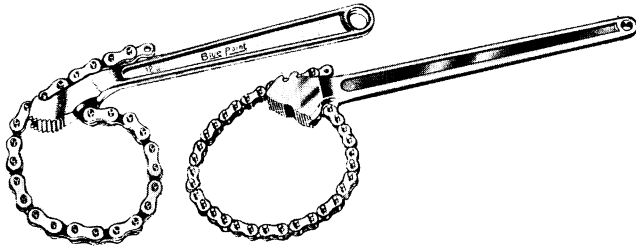

Fig. 3-10 Typical chain wrenches
**Chain Wrench.** This wrench (Fig. 3-10) is used to turn large or irregular shapes, as the chain will grip over a large surface area.